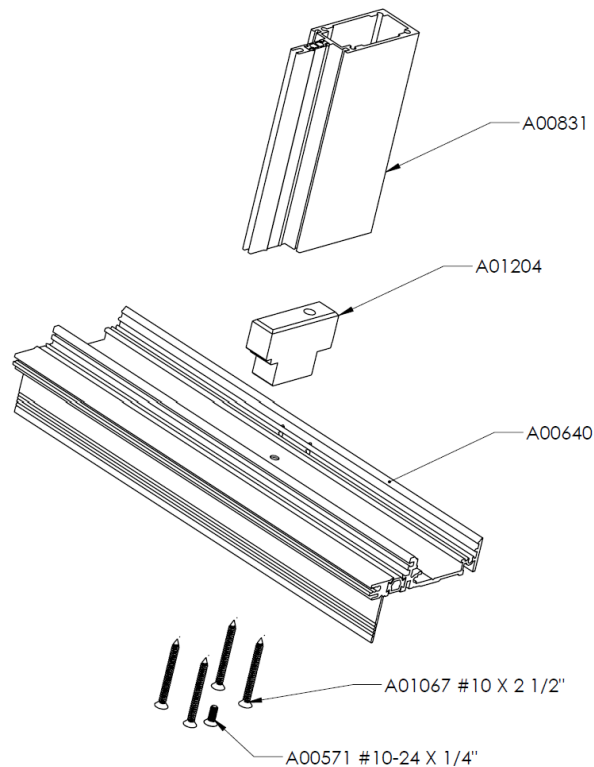

Figure 13
5. Slip the Vertical T-bars over each wind load bracket before inserting vertical T-Bar please insure to apply sealant at end of T-Bar, and secure in location using (4) #10 x 2" screws through the pre-drilled holes. Repeat this process for the head. For applications where a large vertical load will be required, such as transom over a patio door, the high vertical load screw must also be used to prevent sag or separation of the perimeter frame and T-bar. (See Figure 13).